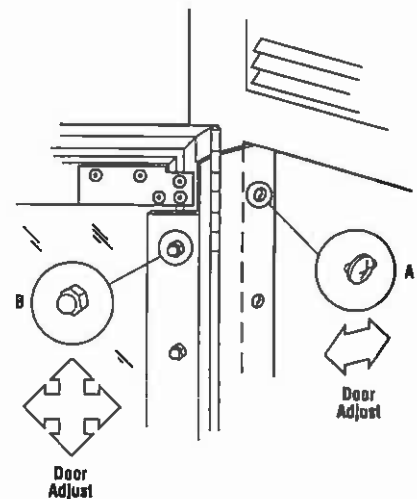

Figure 47
Should it become necessary to remove the door assemblies from the fireplace, always remove the five (5) Phillips head screws that attach the door hinge to the fireplace, identified as (A) in Figure 47.